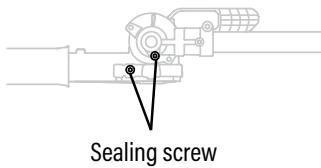
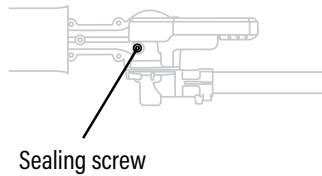

Fig. 7A
Fig. 7B
NOTE: Do not completely fill the transmission gear case. The transmission gears in the gear case need to be lubricated periodically with gear grease. Check the gear case grease level about every 20 hours of operation by removing the sealing screw on the side of the case. There are three sealing screws: one on the side and two on the top (Fig. 7A/Fig. 7B). If no grease can be seen, follow the steps below to fill with gear grease up to 3/4 capacity.
1. Lay the hedge trimmer on the ground and make sure the sealing screw to be removed is facing upwards. (Fig. 7A/7B)